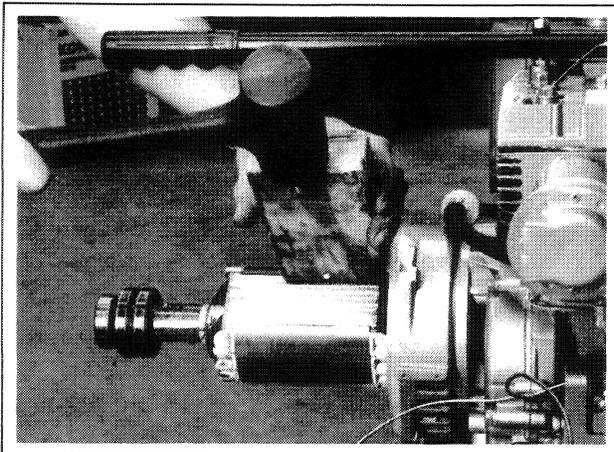

Figure 2-19. Removing Rotor
15. The rotor is held to the engine crankshaft by right-hand threads on the crankshaft and in the rotor shaft. To remove rotor, place a wood block on a trailing edge of one rotor pole. One or two sharp, medium-force hammer blows to the wood block's end will free the rotor, allowing it to be turned off by hand. Figure 2-19.